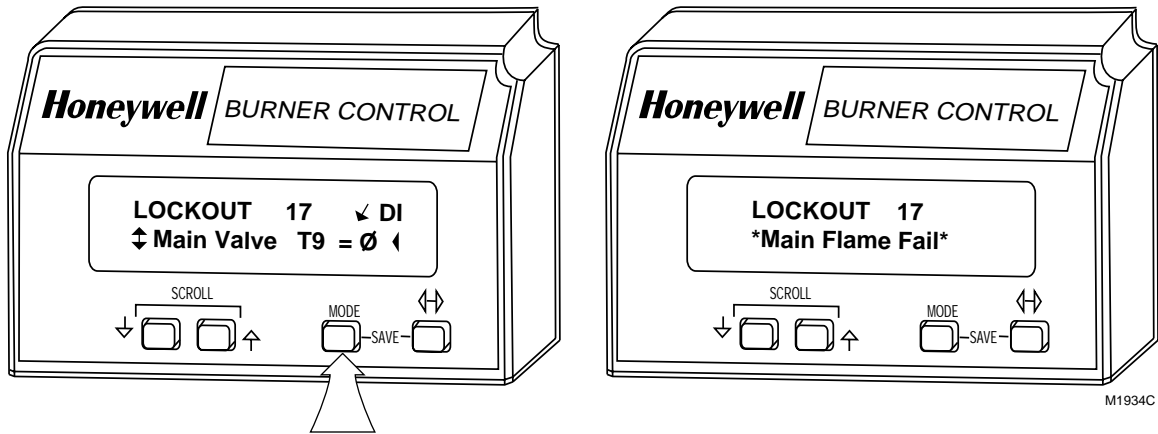

Fig. 11. MODE push-button function.
3. MODE push-button, see Fig. 11. Use the MODE push-button to instantaneously switch the display from a second-line selectable message to a second-line preempted message. The sixty second time-out function can also be used for this task. The MODE push-button only works if there is a second-line preempted message or a lockout message.